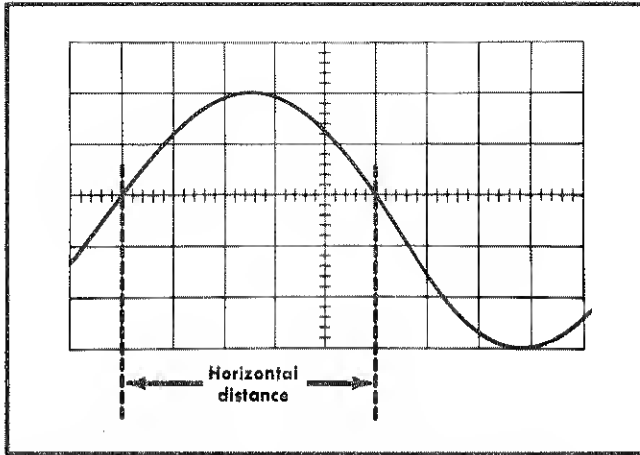

Fig. 2-17. Measuring the time duration between points on a waveform.
5. Set the TIME/DIV switch to the fastest sweep rate that displays less than eight divisions between the time measurement points (see Fig. 2-17). (See the topic entitled Selecting Sweep Rate in this section concerning non-linearity of first and last divisions of display.)
Example. Assume that the distance between the time measurement points is 5 divisions (see Fig. 2-17) and the TIME/DIV switch is set to .1 ms with the magnifier off.
Example. The frequency of the signal shown in Fig. 2-17 which has a time duration of 0.5 milliseconds is: